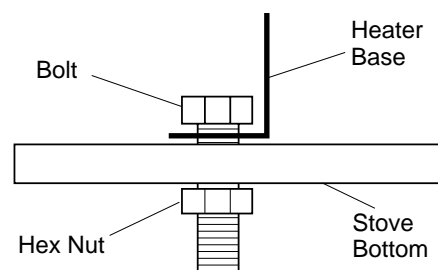

Figure 16 - Fastening Heater Base to Stove Drop Bottom
7. Fasten heater base to stove bottom with #10-24 x .50 bolts and hex nuts provided with gas log heater (see Figure 16). Attachment hardware is factory packed inside plastic bag with installation manual and owner's registration card. Push bolt through heater base mounting hole and through stove bottom. Connect hex nut to bolt on underside of stove bottom. The bolt hex head is for a 5/16" socket and the hex nuts are for a 3/8" socket. If sockets are not available, use adjustable wrenches.